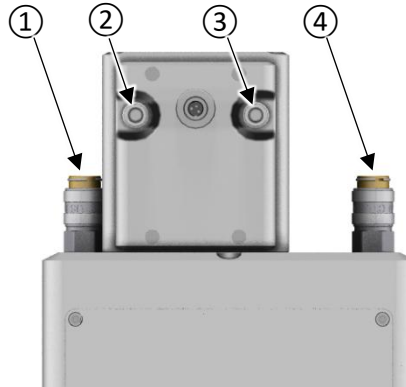

Figure 5: Position of the coolant supply and return connectors
1. Note the flow direction; see Figure 5 on page 31.
Legend to Figure 5